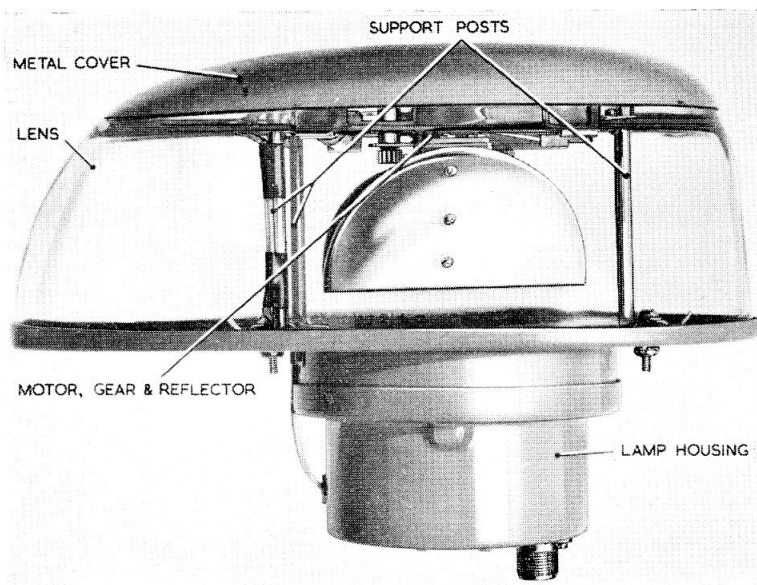
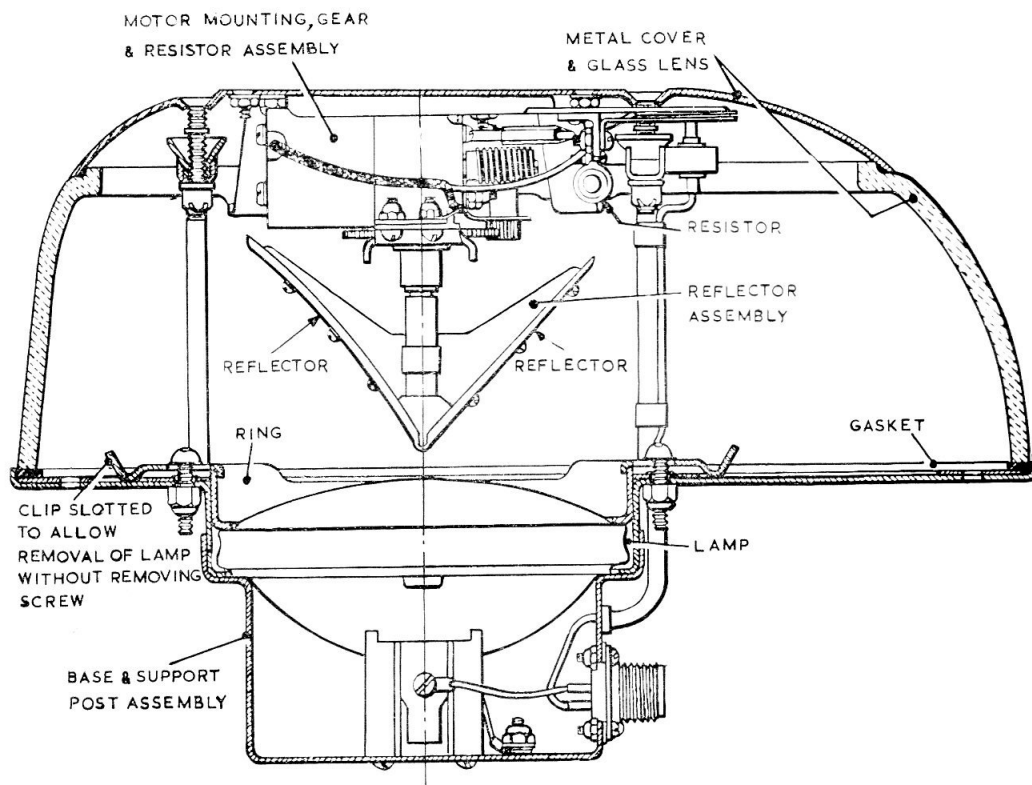

Fig. 1. General view of typical lamp
Fig. 2. Part sectional view of typical lamp
2. The lamp consists of two basic sub-assemblies, the base and filament lamp housing, and the lens and cover which incorporates the motor, gear and reflector assembly and is removable to facilitate filament lamp renewal. The lamp is shown in fig. 1 and a part sectional view given in fig. 2.